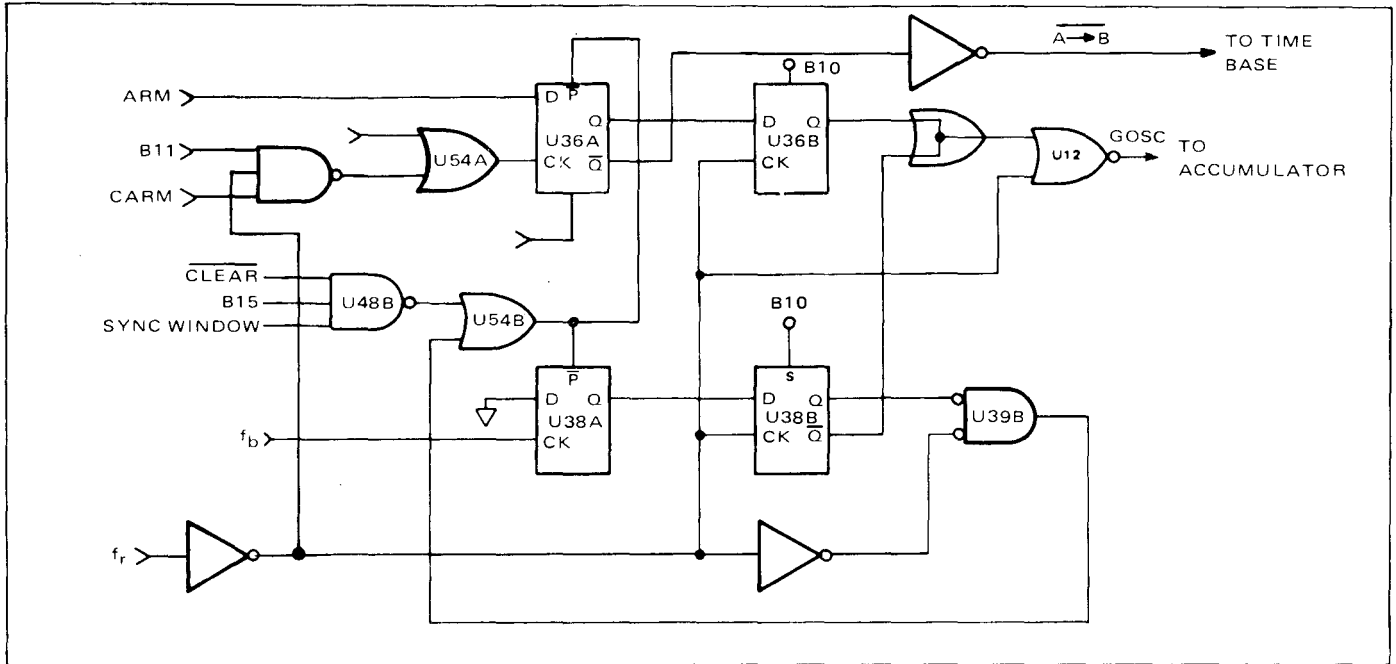

Figure 1.32 - TIA Synchronizer Simplified Logic Diagram
1.4.17.1 The TIA synchronizer circuit enables the averaging the  $\pm 1$  count uncertainty of a time interval measurement over a decadic number of time intervals to achieve resolutions greater than 100 ns with repetitive signals. Shown in the simplified diagram of figure 1.32, the TIA synchronizer is mainly implemted in ECL logic. The number of time intervals averaged is determined by feeding the signal  $A \rightarrow B$  into the time base generator and its output used to control the main measurement gate.